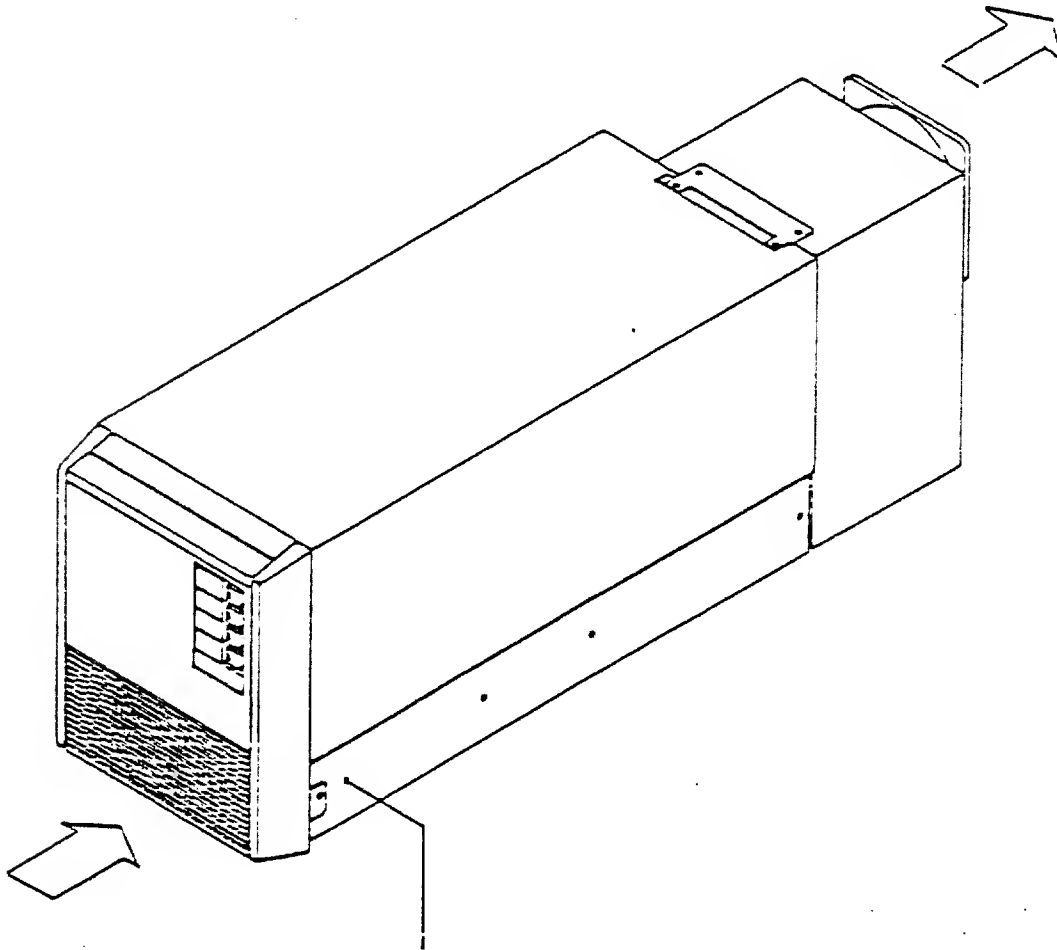

Figure 4-1 Air Flow
An air flow rate of more than 1.5 cubic meter per minute shall be maintained through the air flow path illustrated in Figure 4-1.
- (1) The drive shall be installed to meet the environmental and power conditions shown in Table 2-1.
- (2) The drive shall be installed horizontally to the rack or cabinet.
- (3) The air flow is illustrated in Figure 4-1 to assure the flow rate of more than  $1.5 \text{ m}^3/\text{min}$ .